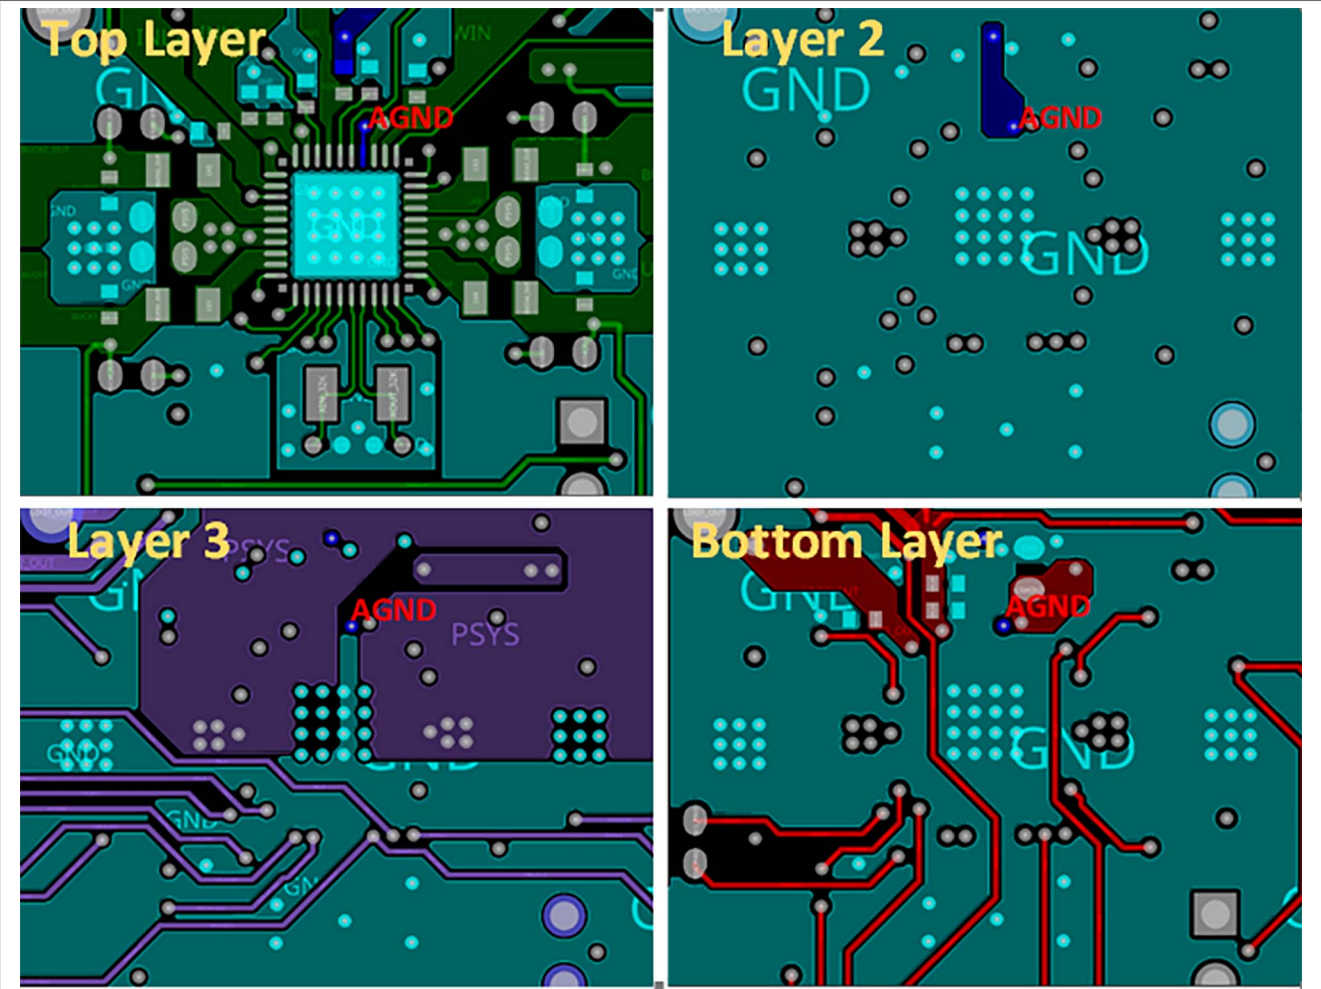
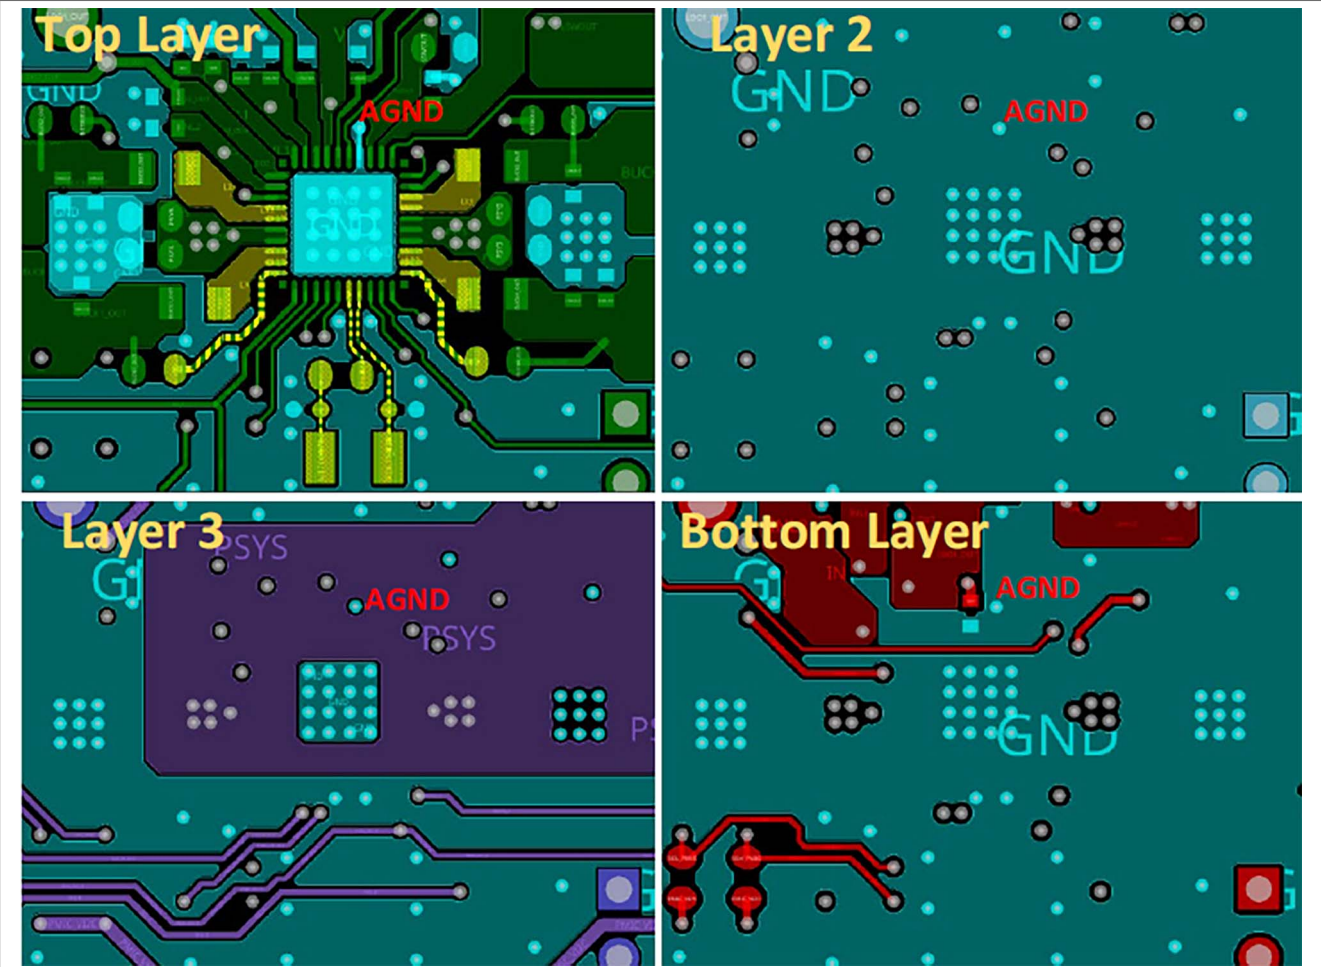

Figure 8. PF9453HN layout example 1
Figure 9. PF9453HN layout example 2
The exposed pad (EP) serves as the ground return (PGND) for all switching regulators and should be connected to the ground plane using multiple vias to ensure a low-impedance path. (See Figure 8 and Figure 9.)
Refer to Figure 8 and Figure 9 for visual reference.